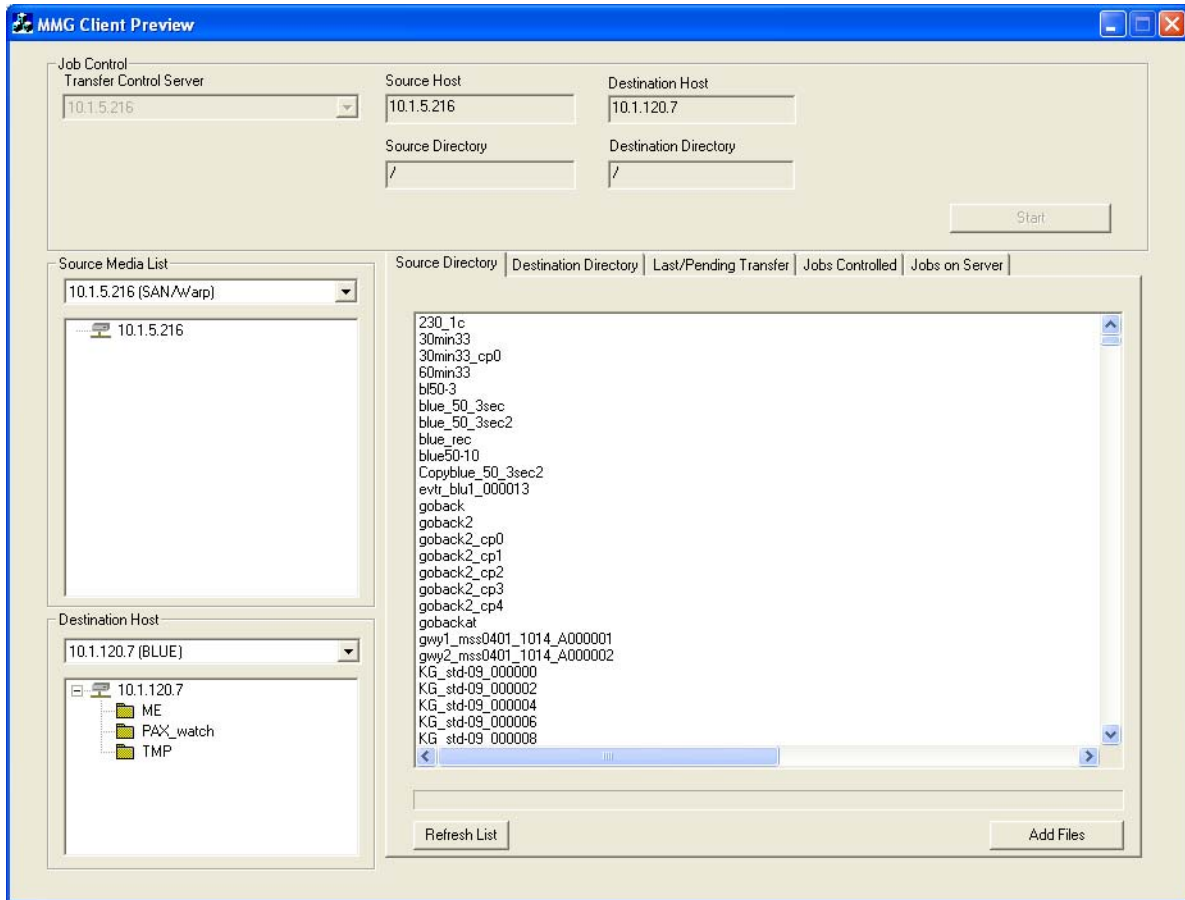

Figure 4-1: MMG Client
The MMG Client window is displayed (Figure 4-1).
1. Open the MMG Client window by double-clicking the MMG shortcut on the desktop (or going to Program Files > Pinnacle > MMG-Client > MMG > Gui Client.exe). The MMG Client window is displayed (Figure 4-1).